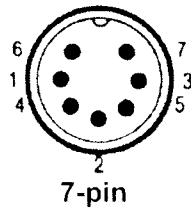

Figure 1
5. **Test the controls:** Disconnect the 7 pin socket N°5 from the power unit. See appendix 1 page 2-4. Measure the resistance between terminals 1 and 6 (see figure 1) with an ohmmeter (see appendix 2).